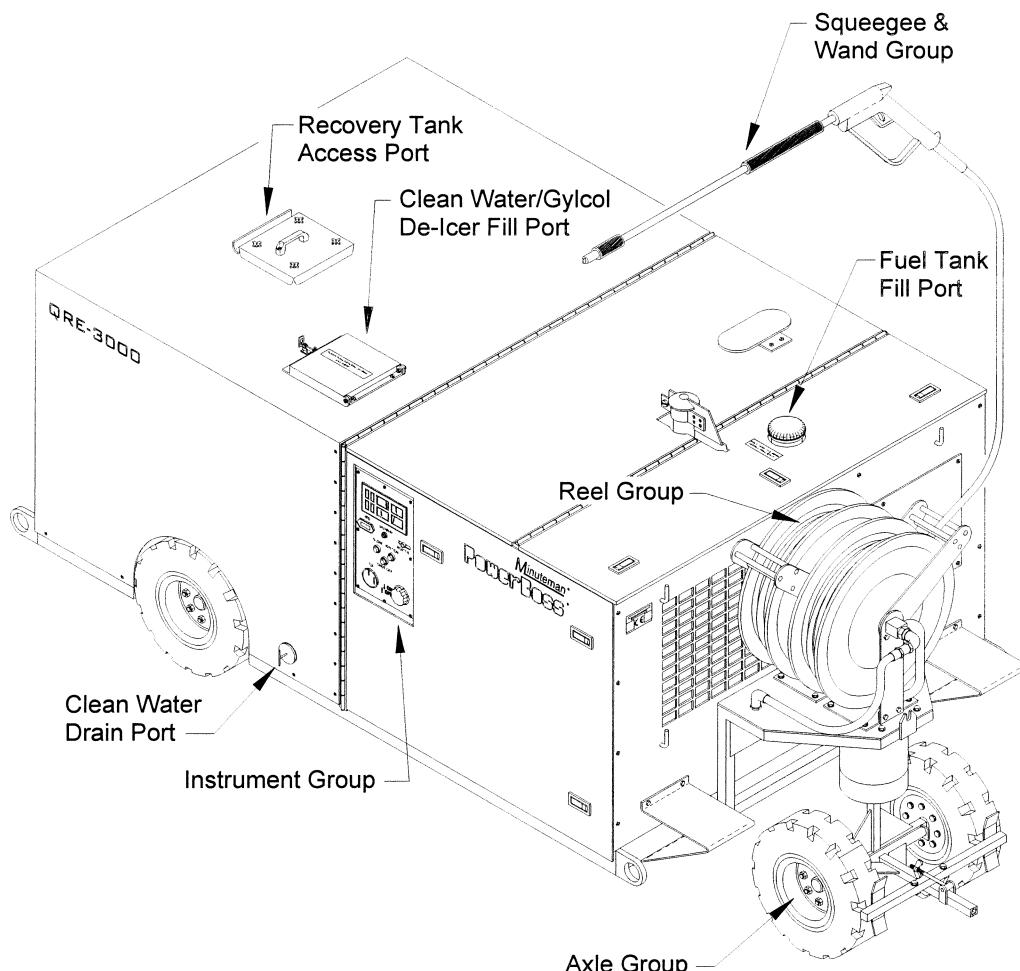

Figure 1-1 Group Overview (Exterior, Front)
1-2.1 Purpose. This publication describes the MINUTEMAN® PowerBoss® Model QRE 3000™ (DN) Diesel Powered, High Pressure Washer (Figure 1-1) and includes information for the proper operation, shipboard maintenance, and repair of the unit to keep it in top running condition. The information is presented as follows:
1-3.1 Intended Use. The MINUTEMAN® PowerBoss® Model QRE 3000™ (DN) Diesel Powered, High Pressure Washer (HPW) is the result of continuing efforts to reduce Foreign Object Damage (FOD) incidences and maintain high degrees of flight deck and hanger deck cleanliness aboard aircraft carriers. The MINUTEMAN® PowerBoss® Model QRE 3000™ (DN) HPW (Figure 1-1) is designed to pressure wash and vacuum flight and hanger decks, leaving the surface free from grease, oil, diesel fuel and debris. This provides a means for maintaining flight and hanger decks with sufficient traction for personnel safety and high volume aircraft traffic.